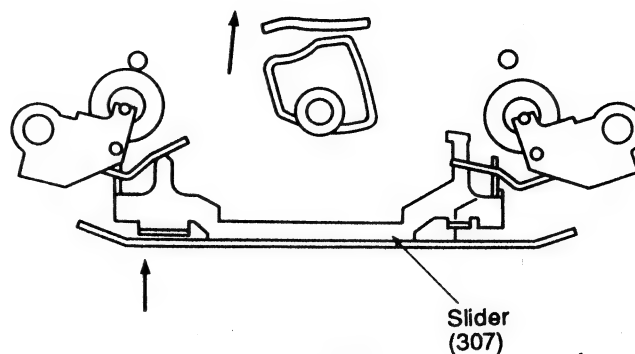

Fig. 14
10. As the head slider lifts, slider (307) lifts as well, the pinch roller on the reverse side contacts the capstan, as shown in the figure, and reverse playback/recording starts. (Fig. 14)